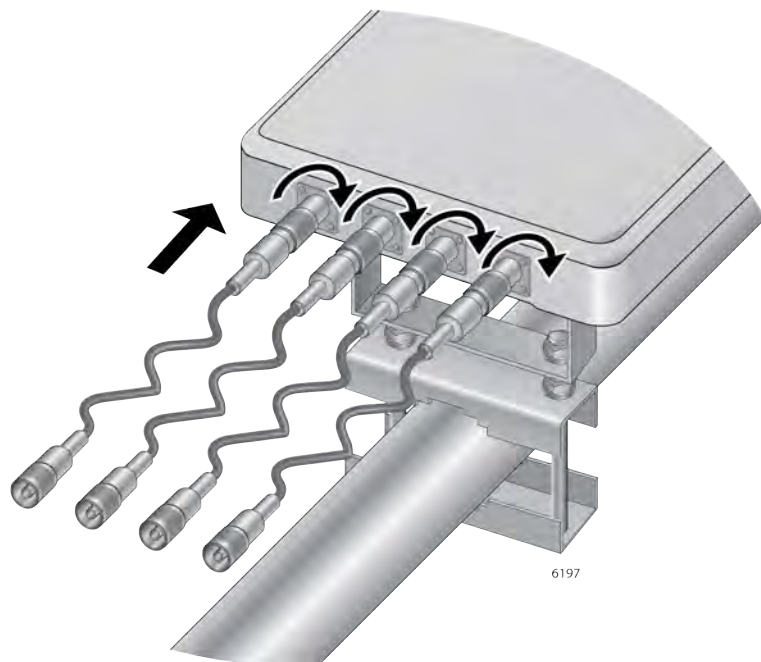

Figure 34. Attaching the Cables to the Antenna Connectors
4. Screw the cables to the antenna connectors. See Figure 34 as an example.